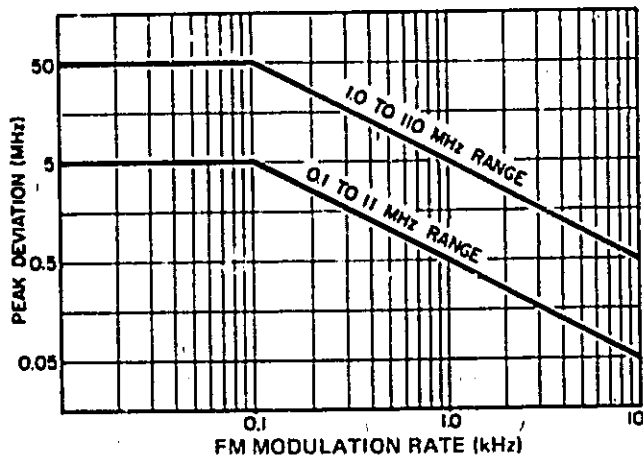

Figure 3-8. Maximum Peak Deviation versus Frequency Modulation Rate
3-15. Internal fm (1 kHz rate) may be used in CW or any sweep mode. Internal fm produces a frequency deviation of 7.5 kHz \pm 5% peak on range 11, and 75 kHz \pm 5% on range 110. The internal fm rate is 1 kHz. External fm is available for any SWEEP mode, but not useable in CW mode. External fm deviation and rate limits are shown in Figure 3-8.
- 11 EXT FM. Input for modulation signals at rates up to 10 kHz (see Figure 3-8). Modulation (deviation) sensitivity is 5 MHz/volt in range 110; 0.5 MHz/volt in range 11.
External fm may be applied in any sweep mode, except CW mode. External fm limits are shown in Figure 3-8.